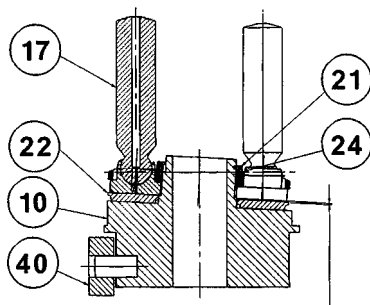

FIGURE 9
See figure 9. Set rocker cam and pin assembly (10) on suitable surface protecting cylindrical rocker cam surfaces from damage during assembly.